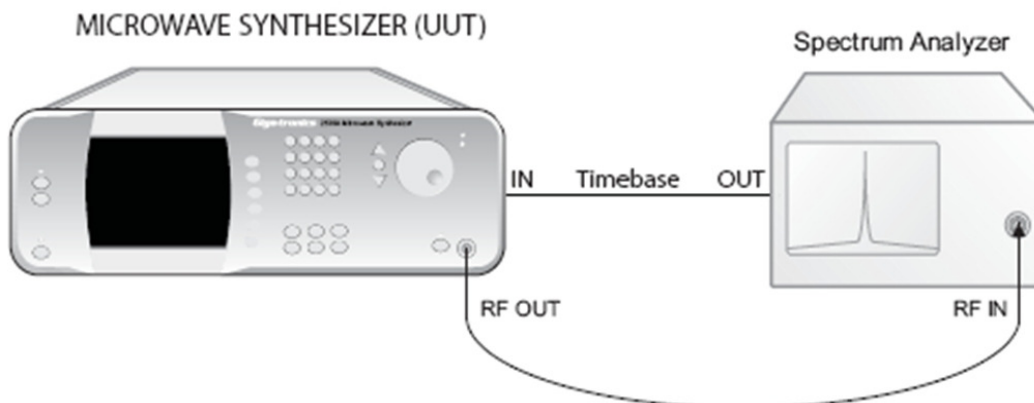

Figure 48: Setup; Frequency Range, Resolution, and Accuracy
1.	Connect the equipment as shown in Figure 48; <ul style="list-style-type: none"> <li>• Connect the timebase output from the spectrum analyzer to the EXT REF IN connector on the rear of the 2500B. See Figure 6 on page 19 for the location of the connector and the electrical specifications of the external timebase.</li> <li>• Connect the 2500B RF Output to the low frequency input.</li> </ul>